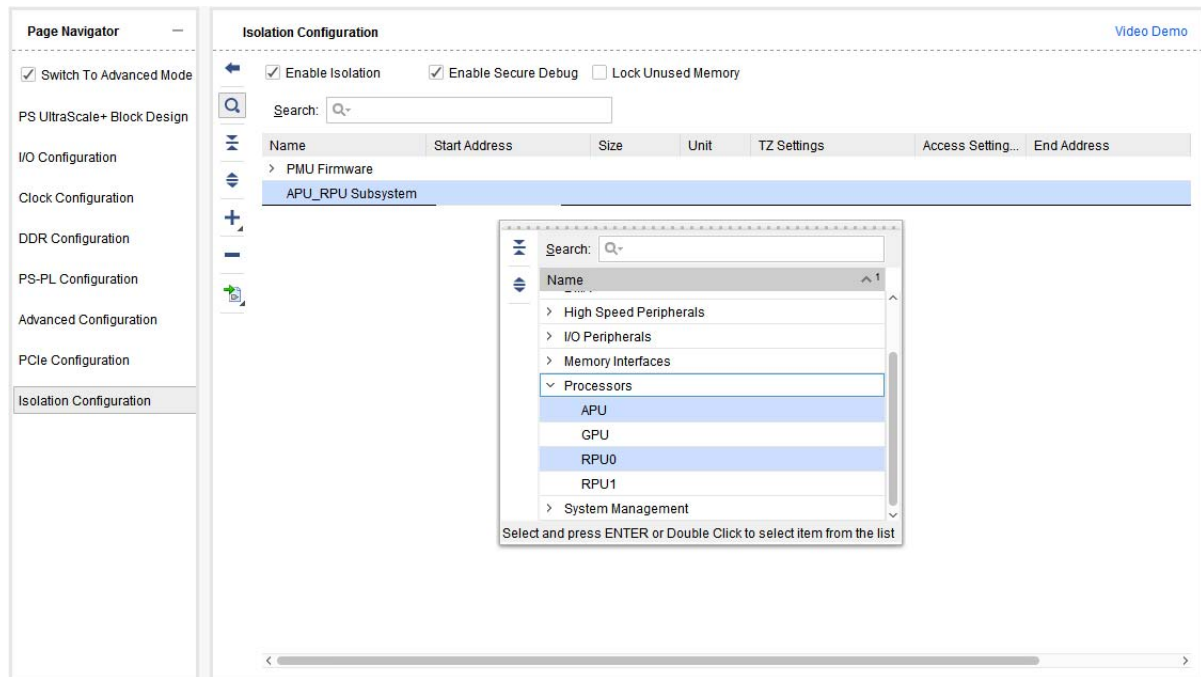

Figure 4-18: Adding Masters
- Right-click **APU_RPU Subsystem** and then click **Add Master**. Select **APU,RPU0** from processors category as shown in Figure 4-18.